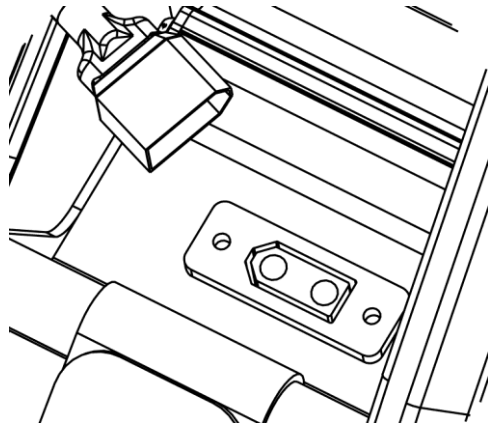

Fig. 10
1- Check that the connection between the battery and the motorcycle is correct (Fig. 10).
- 3- Disconnect the battery as indicated on the previous page (Figure 10) and replace the battery connector cover.